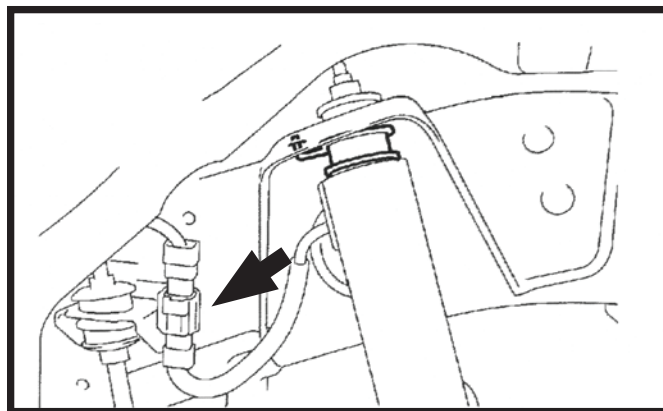

FIGURE 1
3. DISCONNECT THE ABSORBER CONTROL ACTUATOR CONNECTOR. (FIGURE 1)